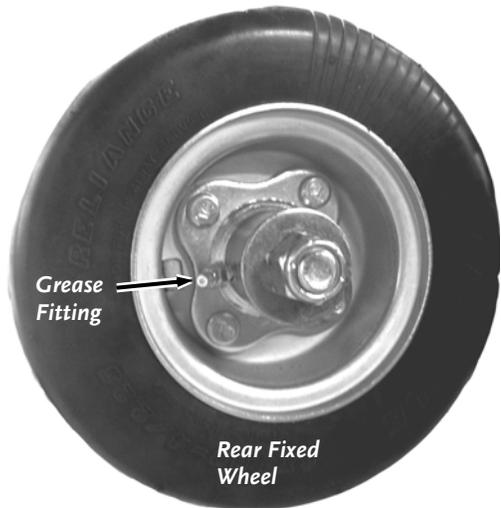
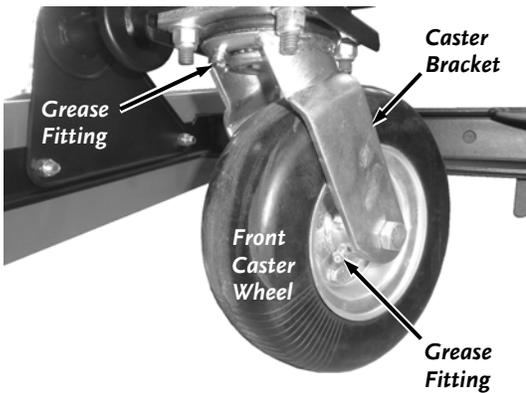

Figure 17
Figure 18
1. Lubricate the Rear Fixed Wheel (**Figure 17**), the Front Caster Wheel and Caster Bracket Bearings (**Figure 18**) at the grease fittings every 25 hours of operation.